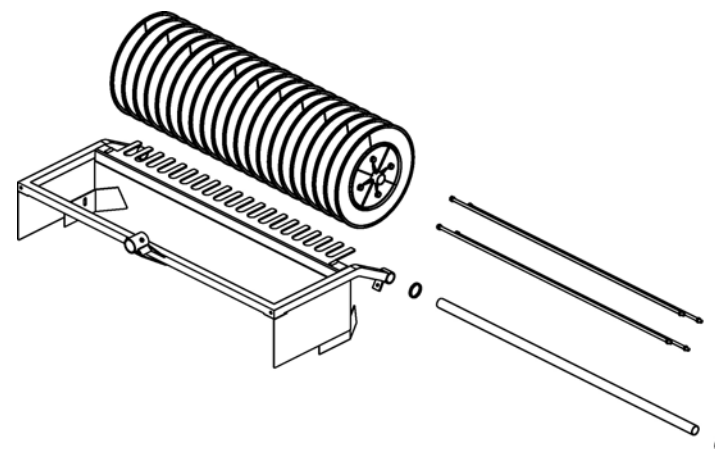

figure 8.2, assembly of the disc set + finger frame
- Replace the faulty discs by new discs. Make sure the ribs on the discs are opposite (See figure 8.2); these ribs secure the balls when opposite (When they are installed not opposite, the collector won't operate properly).